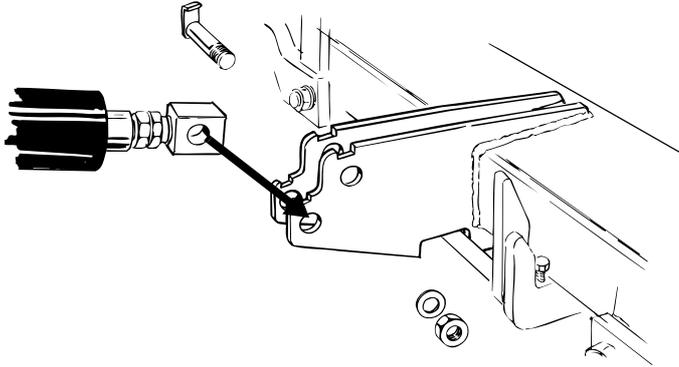

Figure 2.2
- 7 Mount the drawbar, item 15, and hydraulic ram on the centre section by means of its retaining bolts. Place the opening device, item 16, on top of the drawbar's sheet metal stop, item 17. The adjustable head of the hydraulic ram should be fitted to the ram support on the centre section as shown in "Figure 2.2" .